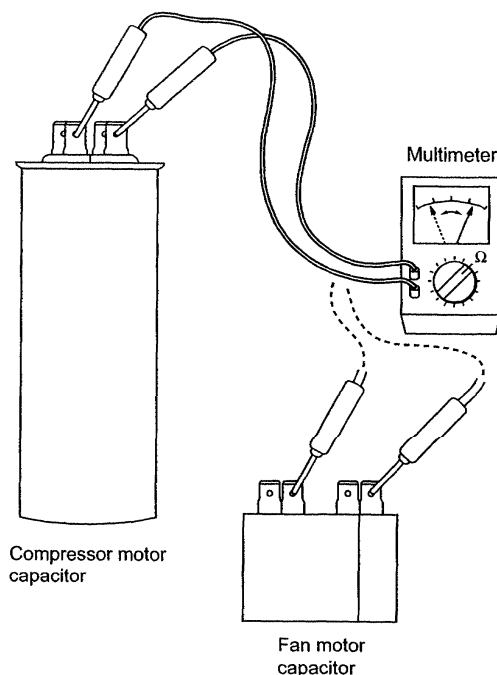

Fig. 21
⑤ **Motor capacitor Both in indoor and outdoor unit**
- Remove the lead wires from the capacitor terminals, and then place a probe on the capacitor terminals as shown in **Fig. 21**. Observe the deflection of the pointer, setting the resistance measuring range of the multimeter to the maximum value.